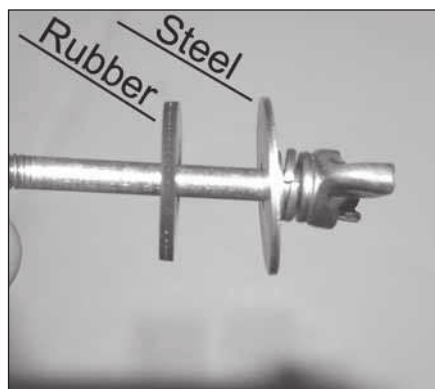

Fig. 2
- 6) Apply the steel washer and rubber washer onto the stock wing bolt and insert it through the filter top. (Fig. 2)